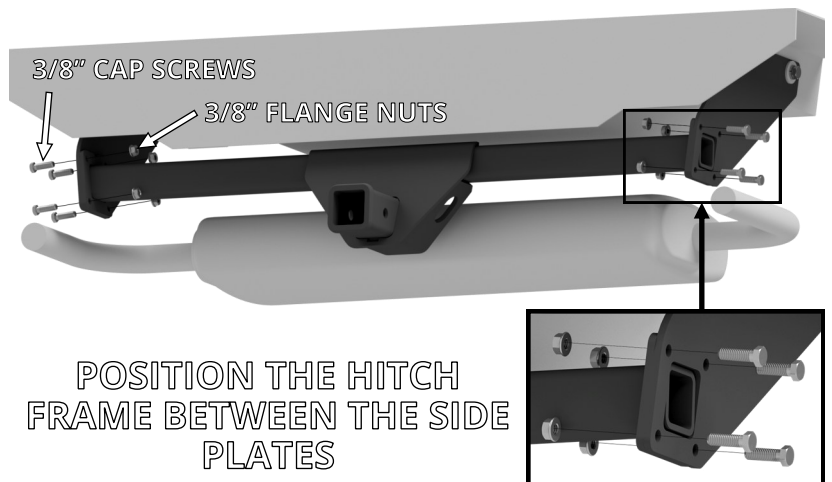

FIGURE B2: RECEIVER FRAME INSTALLATION
4. Retrieve the hitch frame. Raise the frame between the side plates, as shown in Figure B2. Attach the frame to the side plates using eight 3/8" x 1-1/4" bolts and 3/8" flange nuts.